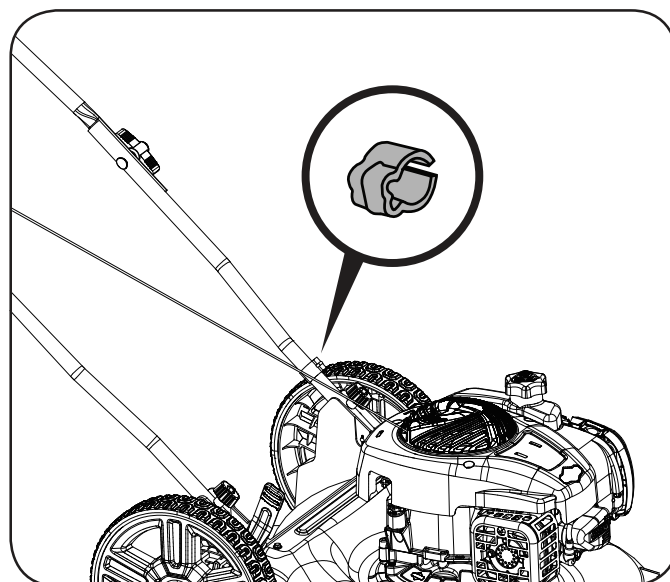

Figure 6
3. Use the cable clamp to secure the control cable to the handle (Figure 6).